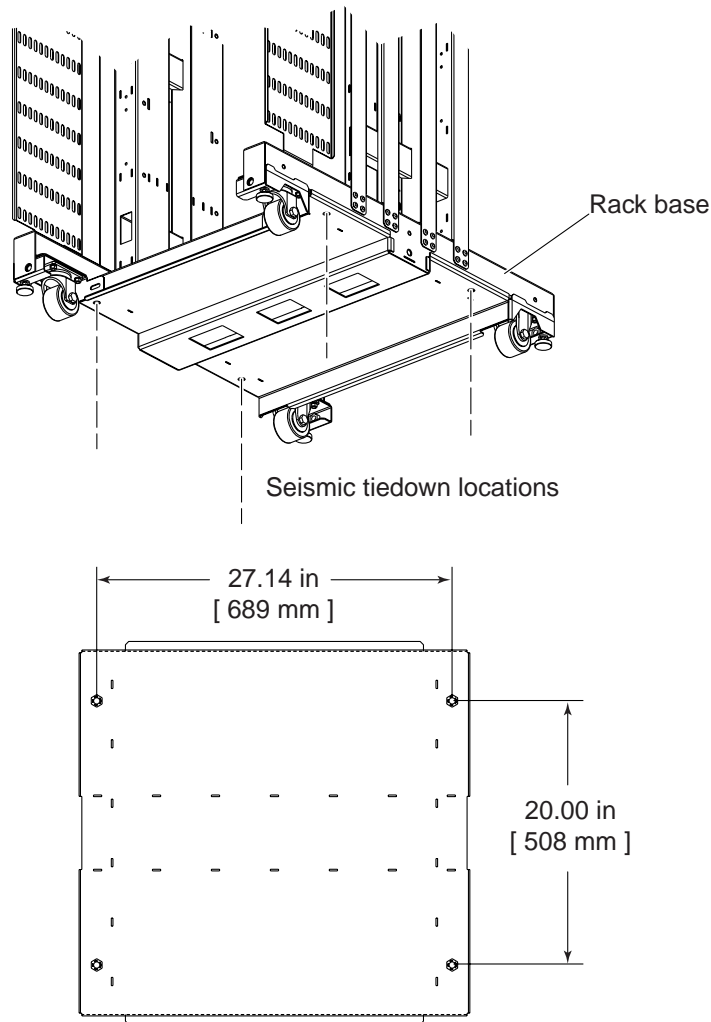

Figure 3-9 Seismic Tiedown Locations
- In areas that are prone to earthquakes, secure each SGI Altix ICE system to the computer room subfloor. Four M12 threaded weld nuts are located on the underside of each rack frame for attachment to customer-supplied hold-down devices (refer to Figure 3-9).
In areas that are prone to earthquakes, you should secure each SGI Altix ICE system to the computer room subfloor. Four M12 threaded weld nuts are located on the underside of each cabinet frame for attachment to customer-supplied hold-down devices. The attachment points are shown in Figure 3-9.